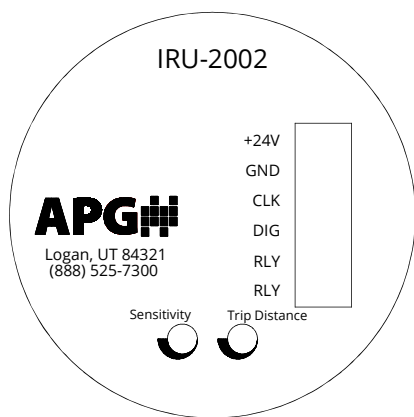

Figure 2.1
Potentiometers for setting or adjusting *Trip Distance* (IRU-2002 only) and *Sensitivity* (IRU-2002 and IRU-2003) are located inside the sensor housing along with terminal strips (See Figures 2.1 and 2.2). Both settings can also be controlled via the I2000SWR software (See Figure 3.3).
- For IRU-2002 and IRU-2003 sensors, system wiring must be connected to internal terminal strips prior to physical installation. (See Figures 2.1 and 2.2)
For IRU-2002 sensors, *Sensitivity/Trip Point Control* is used to select between potentiometer or software control of *Sensitivity* and *Relay Trip Point*. (See Figure 2.1)